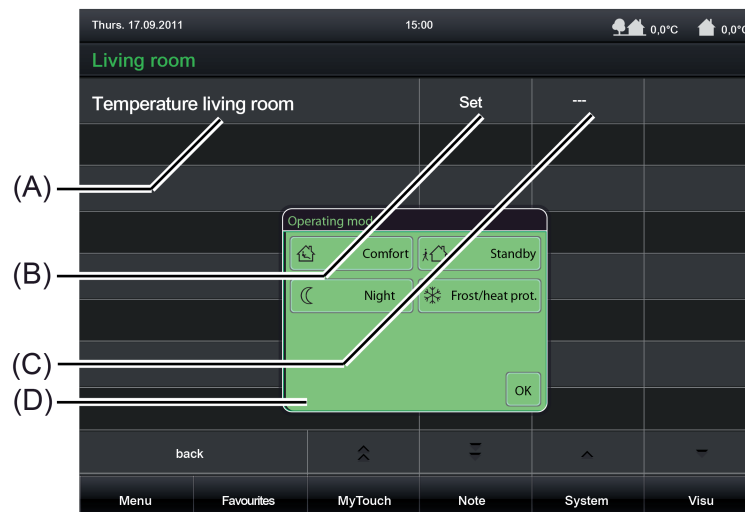

Figure 29: Example of operating and display elements of the function "Operating mode switchover 4 x 1-bit"
The display area contains different display elements (Figure 29) that are influenced by parameters. A name can be assigned to each KNX function in the configuration software (A). The sensor surface for direct operation (B) displays the "Set" button. After touching the sensor surface for the dialog operation in the display area (C), the dialog window (D) will open in which one of the possible operating modes (Comfort, Stand-by, Night reduction, Frost/heat protection) can be selected. After confirming the selection, the selected operating mode will also be displayed there in plain text. The displayed text can be configured separately for each operating mode in the configuration software (e.g. "Comfort"). After a device reset, the display shows "---" until a status object value of the status text is received or an operating mode is predefined.